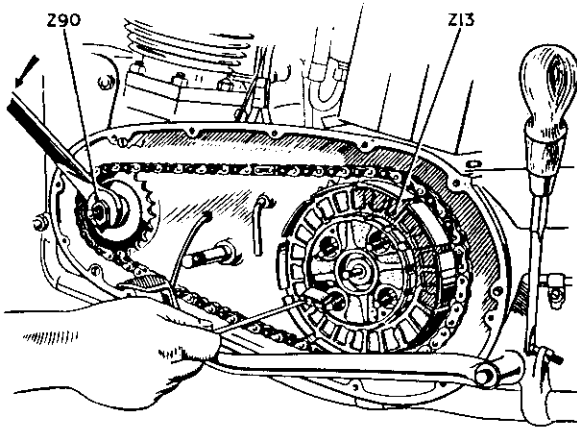

Fig. 3. To replace Clutch Shock Absorber Rubbers on the Machine.
**Note.**—The removal and replacement of rubbers can be carried out on the machine if the drive-shaft adaptor is used to apply the torque to compress the drive rubbers, the clutch centre being locked in the same way. Select top gear and lock the back wheel by applying the brake (see Fig. 3 which clearly shows the operation).